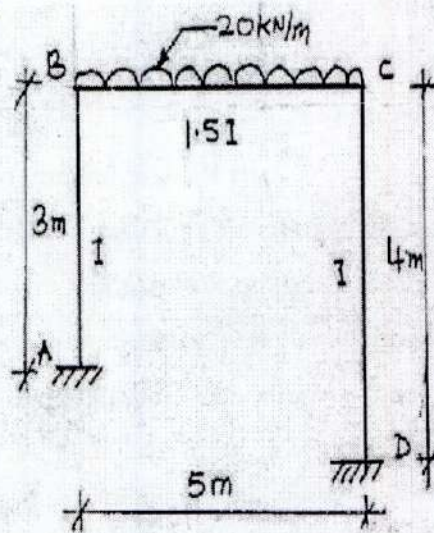

Fig. 3
- Ques 7: Analyse the portal frame ABCD. Support A and D both are fixed. Only span BC is loaded as per fig.3. Draw the BM diagram by using slope
Ques 8: Analyse the portal frame ABCD. Support A and D both are fixed. Only span BC is loaded as per fig.3. Draw the BM diagram by using **moment distribution method.** Also sketch the deflected shape of the frame. [6]